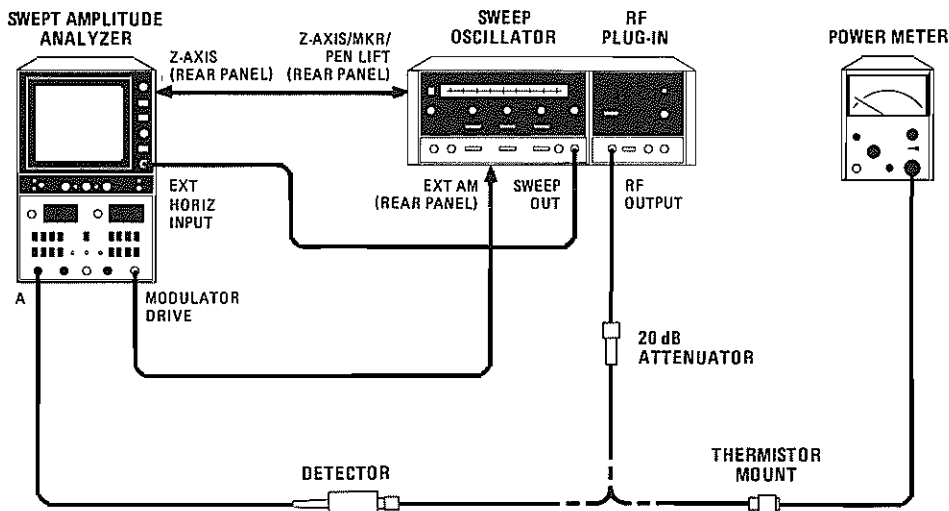

Figure 5-13. ALC Flatness Adjustment Test Setup
- a. Connect equipment as shown in Figure 5-13 with 11664A Detector connected to RF OUTPUT.